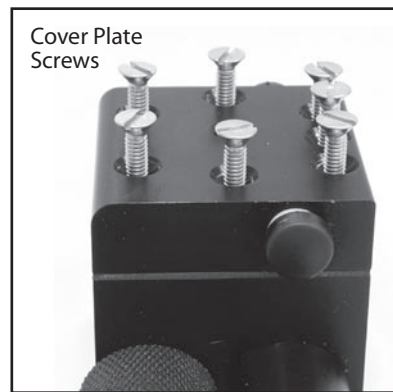

Figure 2
- 3 Remove the seven (7) screws from the Cover Plate (**figure 2**). Although not absolutely necessary, it is easier to disassemble the pump if you secure it in a vise with the facing up.